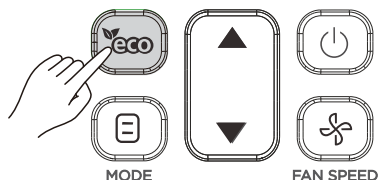

Figure 3.15
1) Press  (see Figure 3.15) to send the ECO signal to the indoor unit. The  icon is displayed;